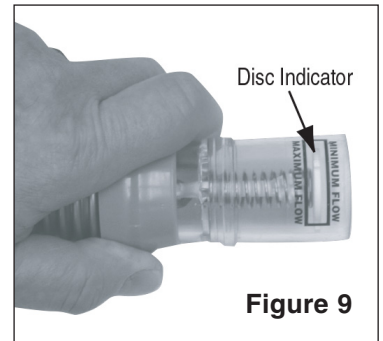

Figure 9
4. Turn the regulator valve adjustment knob clockwise to increase flow or counterclockwise to decrease flow, until the disc indicator in the flow gauge settles between “Maximum” and “Minimum” flow. See **Figure 9**.